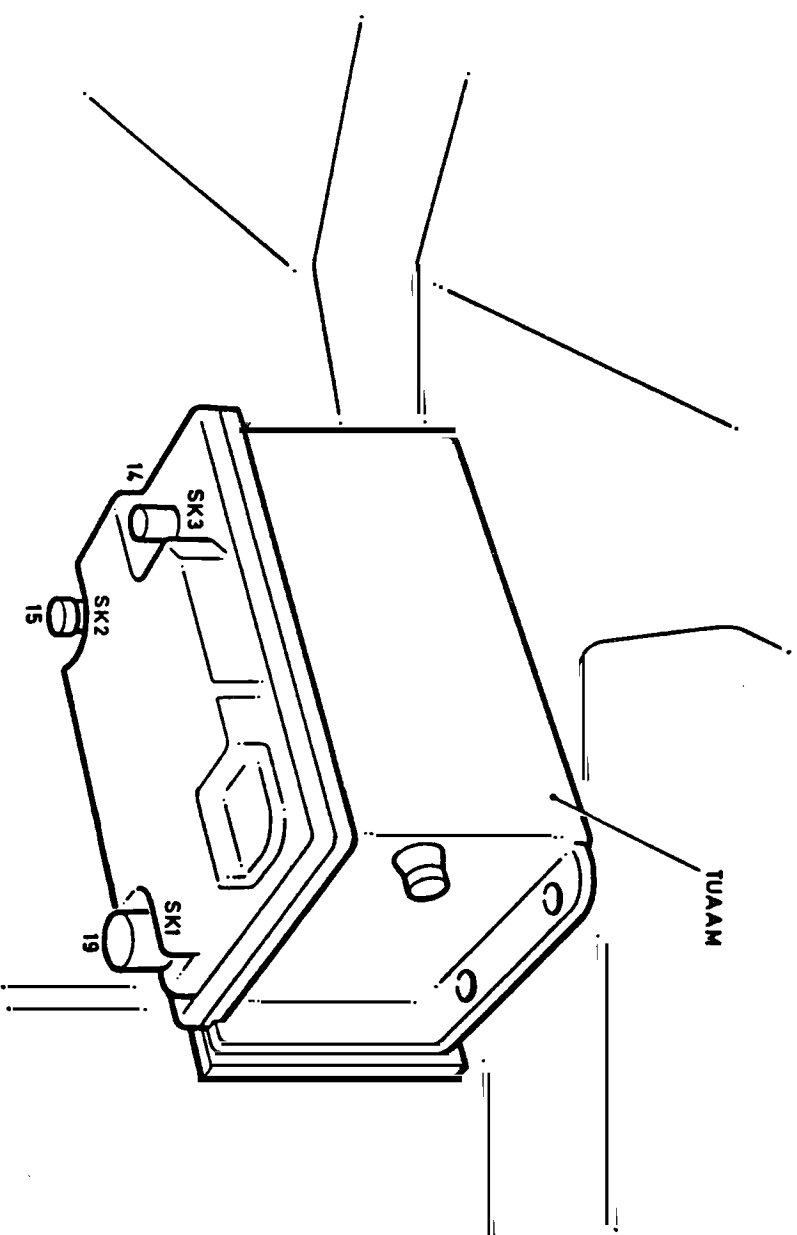

Fig 3 TUAAM location diagram
Fit the plate assembly (9) to the interior forward r.h.s. ('A' set position) as per Figs 3 and 4, Table 2, operation 2.
Fit the TUAAM (12) to the plate assembly (9) installed in Sub Para 13.2 as per Figs 3 and 4, Table 2, operation 3.